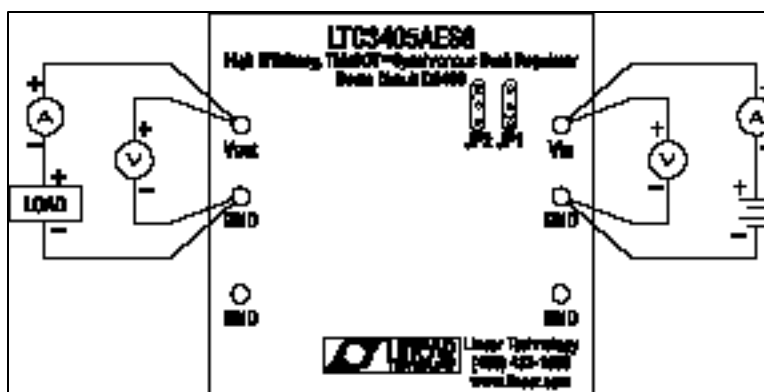

Figure 1. Proper Measurement Equipment Setup
The DC480 demonstration board is easy to set up to evaluate the performance of the LTC3405A. Refer to Figure 1 for proper measurement equipment setup.
2. Connect the load between the  $V_{OUT}$  and GND terminals on the *left side* of the board. Refer to figure 1 for the proper measurement equipment setup.